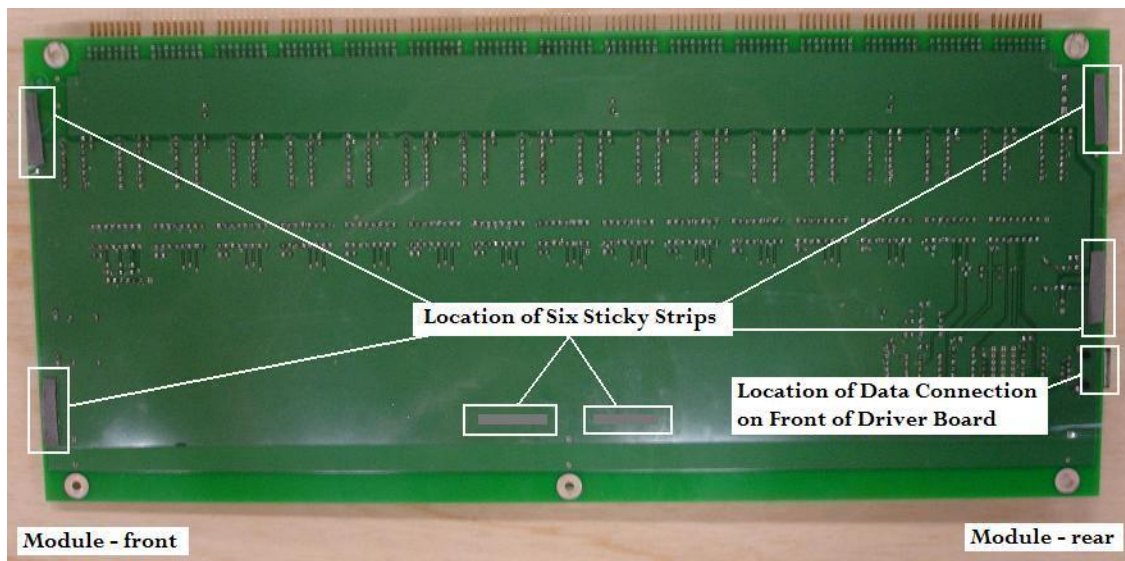

Fig. 1 – Orientation of Back of Driver Board and Location of Sticky Strips on back of the Board
3. Peel the cover off one side of each strip and press them into place, on the back of the Driver Board, as shown in Fig. 1.